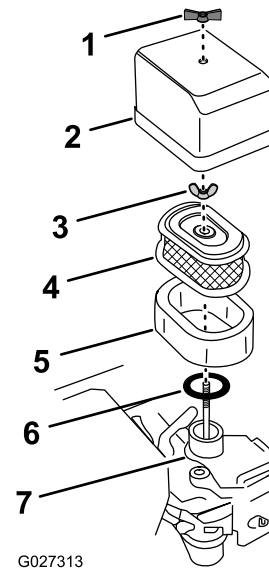

Figure 19
3. Wipe clean the air filter cover (Figure 19).
4. Remove the wing nut that secures the air-filter cover to the carburetor and remove the cover (Figure 19).
5. Remove the foam filter element from the paper filter element (Figure 19).
7. Remove wing nut that secures the paper filter element to the carburetor (Figure 19).
4. Assemble the foam element onto the paper filter element (Figure 19).
1. Wipe clean the dirt from the carburetor base and the inside of the cover with a moist rag (Figure 19).
2. Ensure that the rubber gasket is aligned and seated onto the mounting base of the carburetor (Figure 19).
3. Align the paper filter element with the carburetor and ensure that the hold-down rod of the carburetor passes through the top plate of the filter (Figure 19).
4. Secure the filter to the carburetor with the filter wing nut and tighten it finger tight (Figure 19).
5. Align the air-filter cover over the air filter elements with the hold-down rod of the carburetor passing through the top cover (Figure 19).
6. Secure the cover to the engine with the cover wing nut and tighten it finger tight (Figure 19).